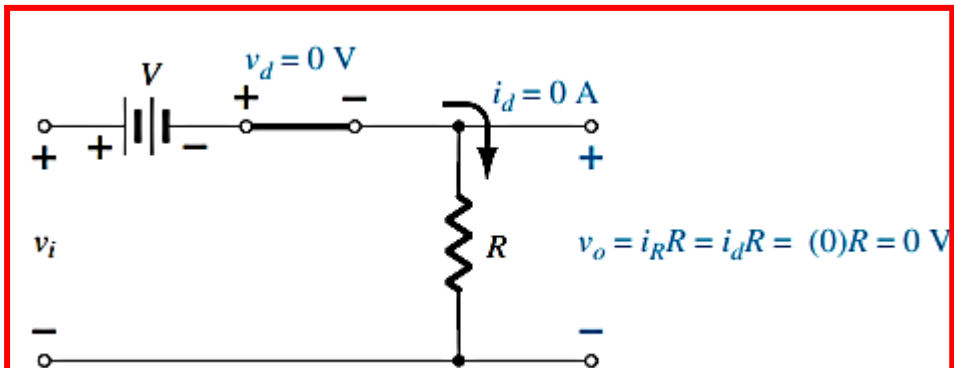

Fig. 3: Determining applied voltage for the circuit
- Note the substitution of the short-circuit equivalent for the ideal diode in Fig 3, and the fact that the voltage across the resistor is 0 V because the diode current is 0 mA. The result is $v_i - V = 0$ or $v_i = V$ is the applied (transition) voltage.
- When the input turns negative, the network appears as in Fig. 3, with the diode as an open circuit and voltage stored across the capacitor.